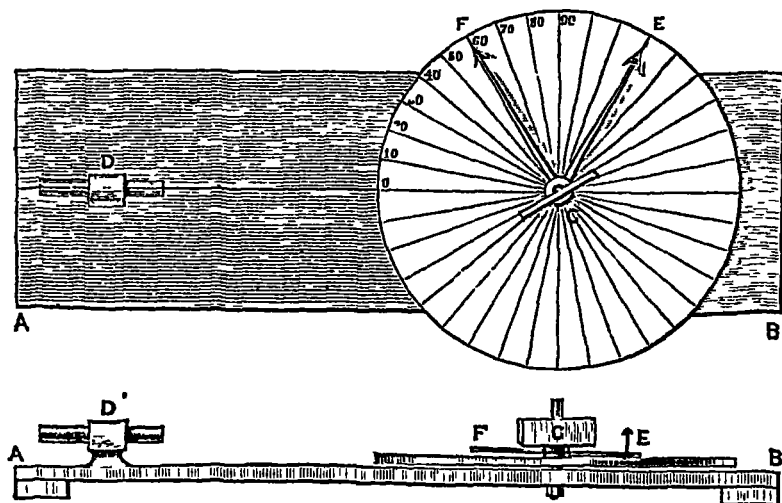

FIG 67
**A rotating mirror**—AB (fig 67) is a deal board 12" × 4". A line CD is drawn upon it parallel to the sides. A cork is glued at A, and a piece of glass tubing  $\frac{1}{2}$ " diameter, D, is passed through the cork so as to be parallel to the line, two threads are stretched vertically and horizontally across the end nearer to the mirror, so as to cross in the centre. A movable divided circle made of cardboard 6" radius is centred on the line. Two movable arms, E and F, of thin rod are movable on the same centre. To F is attached a piece of looking-glass C so that it stands vertically with its reflecting face at the centre. F is the normal to the glass. On E, at radius distance, fix a pin with a bright head. Place the mirror in any position, move the circle so that F is at 0°. Move the arm until the image of the pin head seen by looking through the tube is at the intersection of the threads. As before, the angle FCE equals the angle FCD.